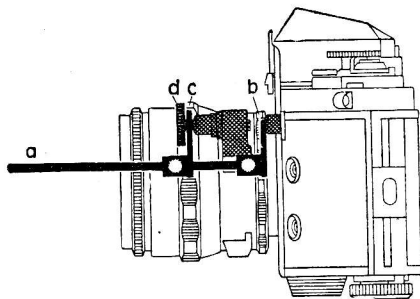

Figure 5
(1) For short extension up to 15 mm (Two-in-One ring, Pair of Bayonet Rings with or without a 5 mm Extension Tube) the Autocouple Extension Release is assembled as shown in Figure 5.